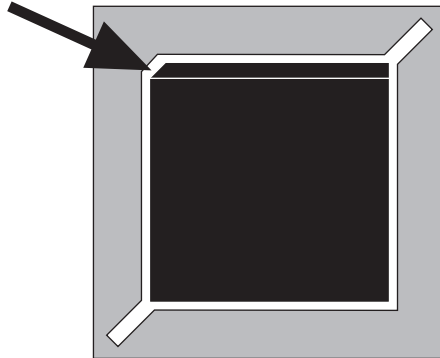

Figure 38: One corner of the chip define its orientation.
- Finally plug the new FLASH. Be careful about the orientation, given by a corner of the chip, as showed in figure 38.